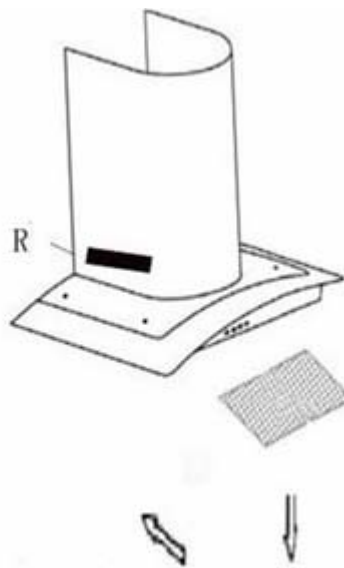

Fig 2
- ✓ Remove the metal anti-grease filters (see Figure 2 below) and find the old bulb located in the light fixture up inside the exposed canopy. Change the halogen bulb using only olive-shaped spares with an G4 coupling, max. 20W.
- 1) Press the handle of the metal grease filter towards the rear part of the unit until it is released from the front housing, and remove it by pressing downwards (Fig. 2 - above).